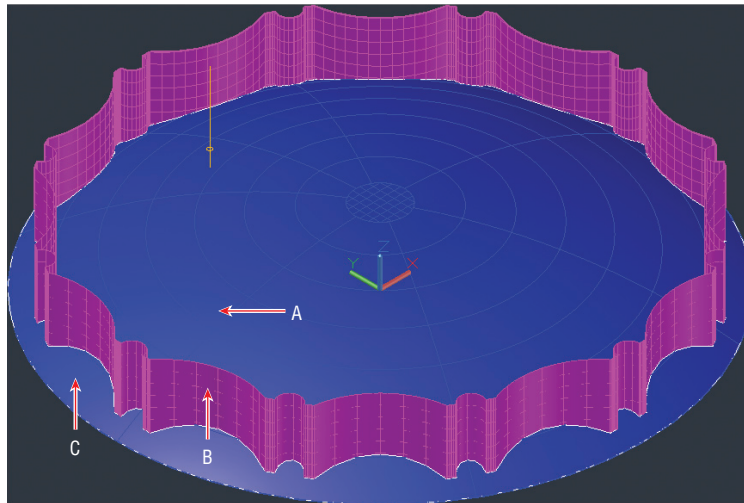

FIGURE 17.8 An extruded surface (in magenta) poking through the dome membrane (in blue)
3. Hover the cursor over the Layer Properties Manager's title bar to reveal the palette. Toggle on the Dome Membrane layer. Double-click the Dome Membrane layer's icon to set it as current. Figure 17.8 shows the result.
Click point A in Figure 17.8, and press Enter.
Click point B in Figure 17.8, and press Enter.
Click point C in Figure 17.8, and press Enter. The SURFTRIM command ends.